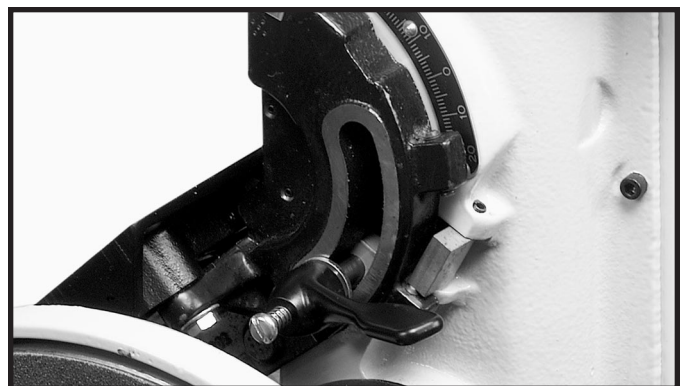

Fig. 17
5. The same procedure is followed when adjusting the table to stop at the 45° position as shown in Fig. 17.